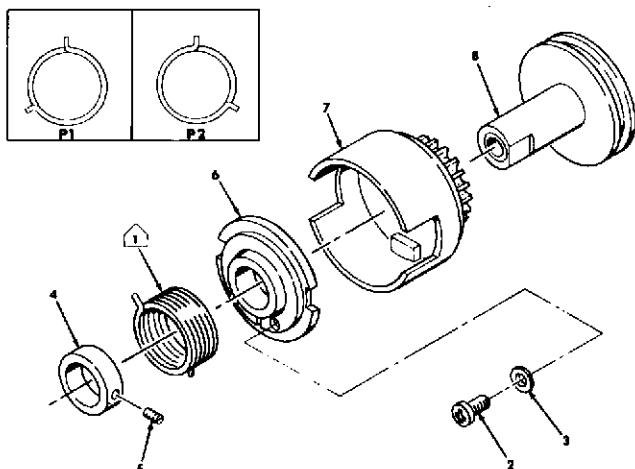

Figure 3-22. CLUTCH ASSEMBLY
1. Assembly: Depress pin (A) and turn clutch gear (B) to touch pin (C). Hold gear (B), do not allow to spring back.
2. Position stop (D) so that corner or edge is just over small cross pin of pin (A).
9. Clutch Assembly (Fig.3-22)
- b. Position driven drum (4) to provide .005 to .010 end play.
- c. Apply Loctite to threads of setscrew (5) and tighten between 50 and 55 inch ounce torque. Loctite should be removed from outside diameter of driven drum (4).
- d. Inner tail of clutch spring (1) must be fully depressed into groove of drum (6). Use screw (2) to hold spring.